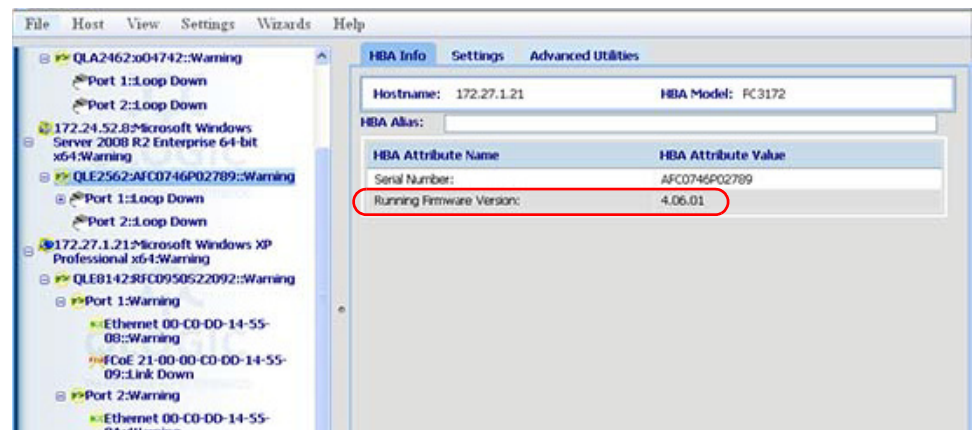

Figure 12. Firmware Version on HBA Info Page of QConvergeConsole Utility
2. Click the **HBA Info** tab. The **HBA Info** page displays as shown in Figure 12.